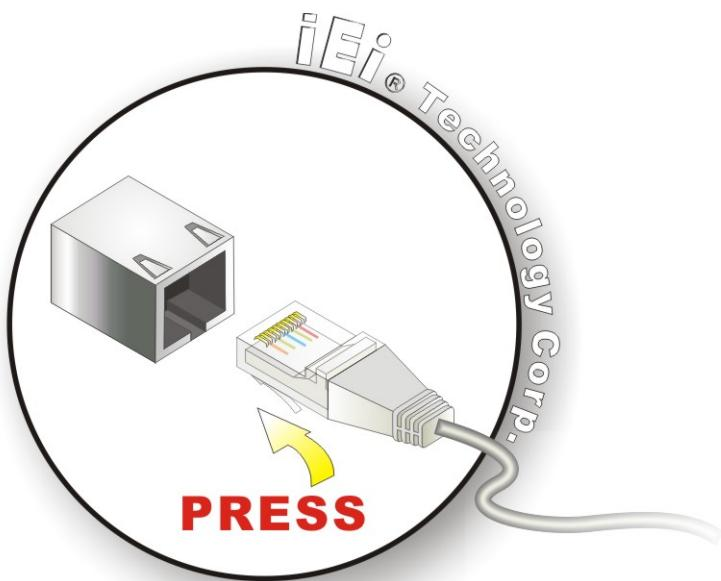

Figure 4-18: LAN Connection
**Step 2: Align the connectors.** Align the RJ-45 connector on the LAN cable with one of the RJ-45 connectors on the PICOE-PV-D4251/N4551/D5251. See **Figure 4-18**.